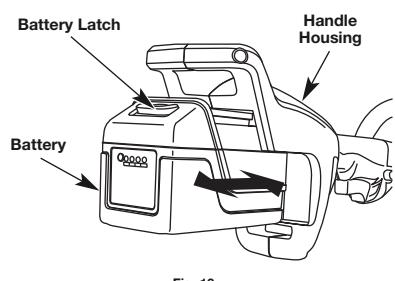

Fig. 10
- Align the tongue of the battery with the handle cavity (Fig. 10).
- Press the latch button on the battery down and hold (Fig. 10).
- Fit the battery into the handle cavity (Fig. 10). Refer to *Installing the Battery*.